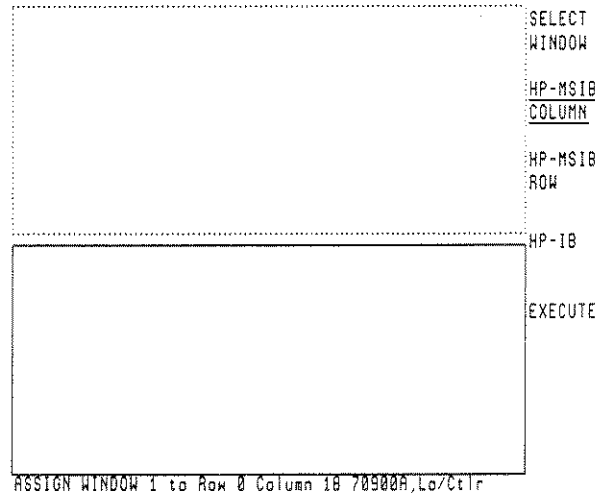

Fig. 21
4. Press *HP-MSIB COLUMN* and turn the knob until the bottom line on the screen shows that an HP 70900A module has been found (the factory default address is 0,18) as in figure 21.